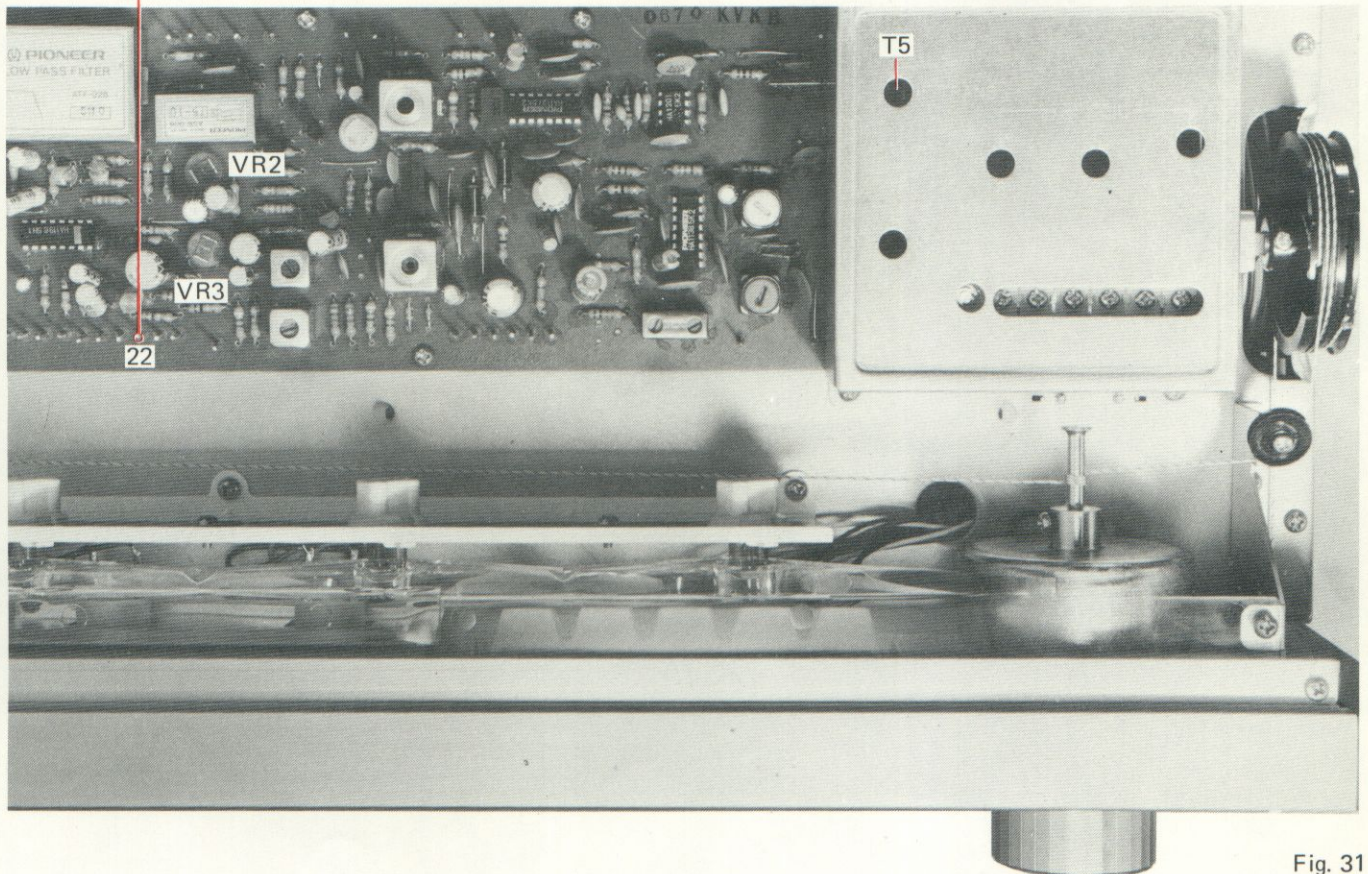

Fig. 31
1. Connect measuring equipment as shown in Fig. 31.